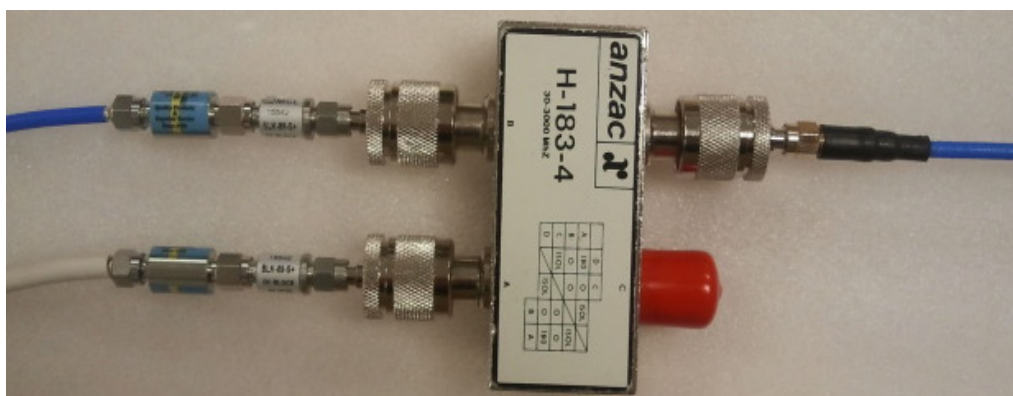

Figure 2. ANZAC H-183-4 Balun Setup
- Figure 2. ANZAC H-183-4 Balun Setup 2
Figure 2 shows the setup using the ANZAC H-183-4 balun which has a bandwidth of 30–3000 MHz. The 50Ω series terminator can be a 3dB or 6dB, 2W, 5Ω attenuator (commonly available). Two models that can be used are the Tektronix 015-1001-00 or the Crystek CATTEN-03R0. Two models of the DC-block that can be used are the MCL15542 BLK-89-S+ or the MCL 15542-BLK-18.